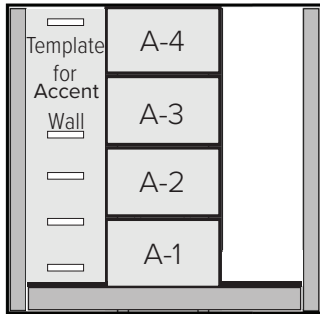

Figure 3.3.1
3.3.1 Place accent wall panel template on J channel as shown in Figure 3.3.1.